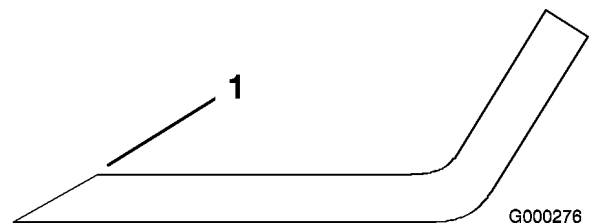

Figure 56
1. Use a file to sharpen the cutting edge at both ends of the blade (Figure 56). Maintain the original angle. The blade retains its balance if the same amount of material is removed from both cutting edges.